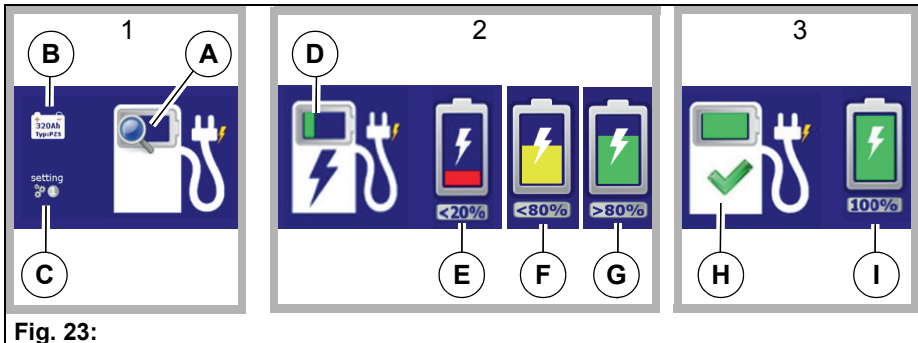

Fig. 23:
- 1 Once the mains plug has been plugged in, the initialisation phase starts and the symbol *Charger with surrounding magnifying glass* **Fig. 23-A** is displayed. The information about the type of battery which has been installed
- appears to the left of this **Fig. 23-B** and
- the charge characteristic which has been set **Fig. 23-C**.
- 2 Charging starts, and is indicated by a bar that is continuously filled **Fig. 23-D**. At the same time, the battery capacity that has already been stored appears to the right of this in three symbols:
- Symbol *battery capacity less than 20 %* **Fig. 23-E**
- Symbol *battery capacity less than 80 %* **Fig. 23-F**
- Symbol *battery capacity more than 80 %* **Fig. 23-G**
- Symbol *charger with green tick and filled bar* **Fig. 23-H**
- Symbol *battery capacity 100 %* **Fig. 23-I**